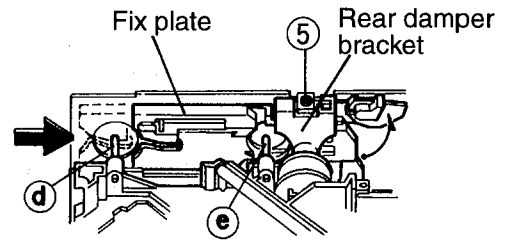
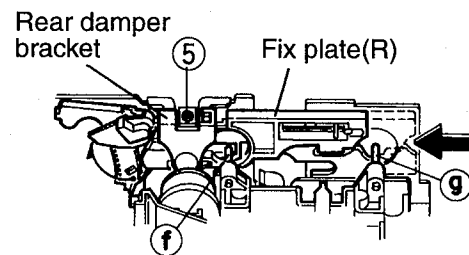

Fig.17
Fig.18
- 2.While shining the fix places on the right and left Sides respectively to the arrow direction, lower the entire CD mechanism. When the shafts(ⓓ, ⓐ, ⓕ and ⓑ) on both the right and left sides have been set free as shown in Fig.17 and Fig.18,then the assembly can be removed easily.Remove the two screws ⑤ retaining the rear damper bracket to make it easier to remove the damper from the rear damper bracket(See Fig.10, Fig.17 and Fig.18).